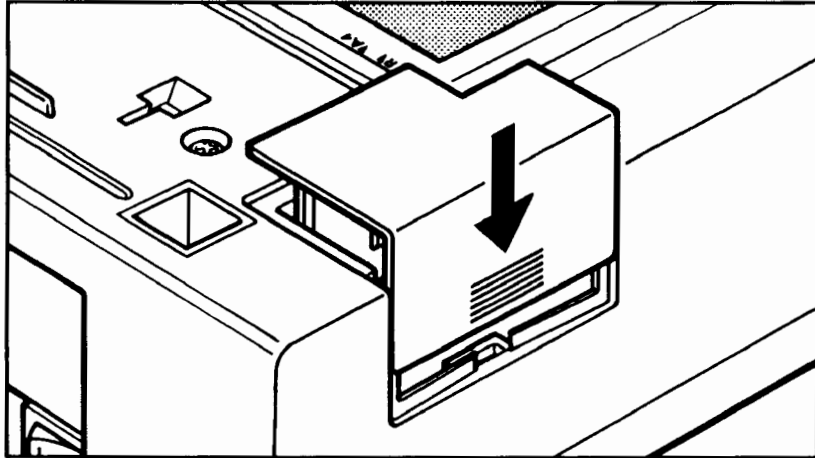

Figure 25. Replacing the Lamp Cover
16. Replace the lamp cover. See figure 25.